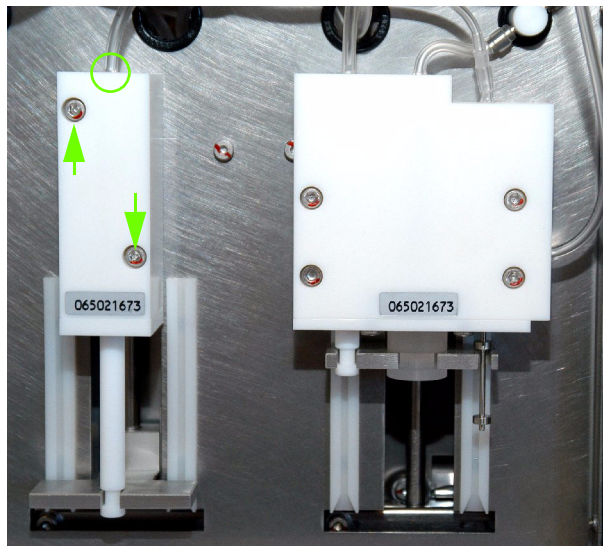

Fig.9: CRP syringe
- ◆ Clamp and disconnect the CRP syringe tube (See "Fig.9: CRP syringe, page 7").